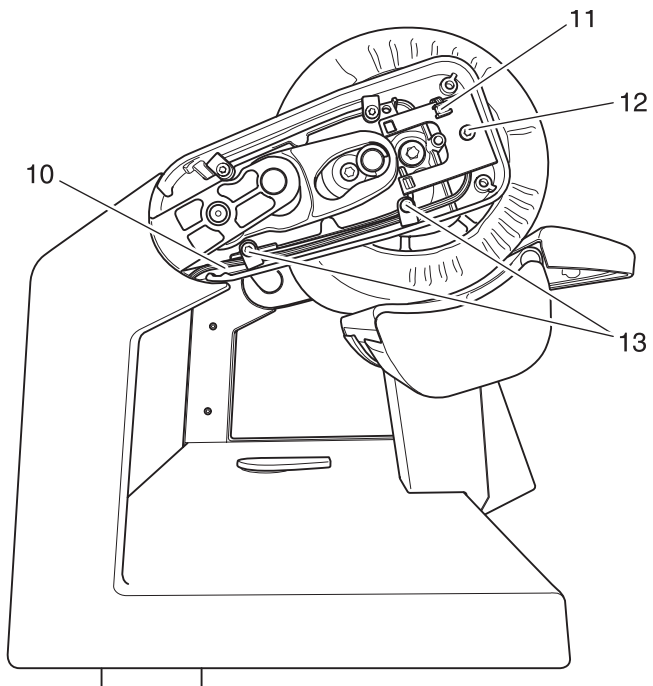

Fig. 5a
- Insert wire branch 10 into the conduit of the bearing and supporting arm (fig. 5a).